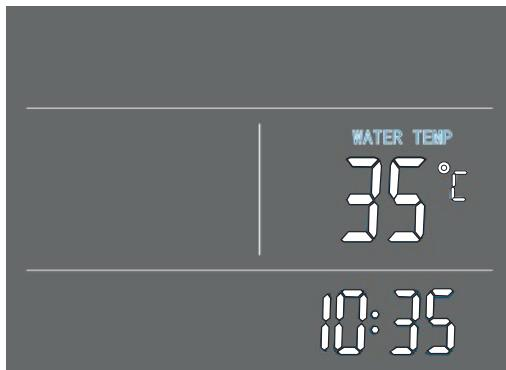

Figure 6-2 - Standby mode
- 2.-when turning on the power, whole icons are displayed on the controller screen for 3 seconds. After checking if everything is ok, the water heater enters into the standby mode (Figure 6-2);
1.-when the water heater is in standby mode (Figure 6-2), press together the  and  buttons for a few seconds;